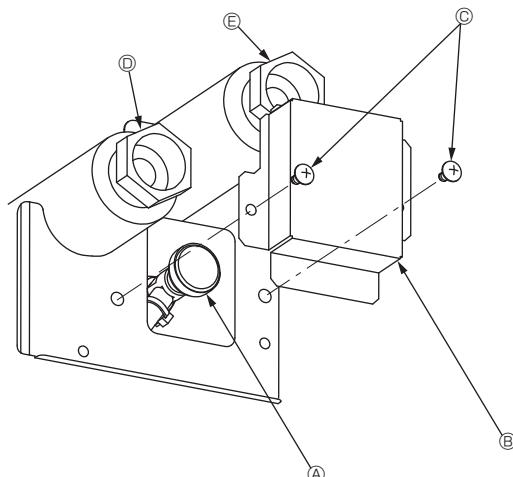

Fig. 7-1
7.2.2. The air vent valve of indoor unit (Fig. 7-1)
- ① Remove the air purge valve cover.
- ② Turn the knob on the air purge valve to release the air.
- ③ Air purge valve
- ④ Air purge valve cover (Tightening torque: $1.3 \pm 0.3 \text{ N}\cdot\text{m}$)
- ⑤ Screw
- ⑥ Outlet
- ⑦ Inlet